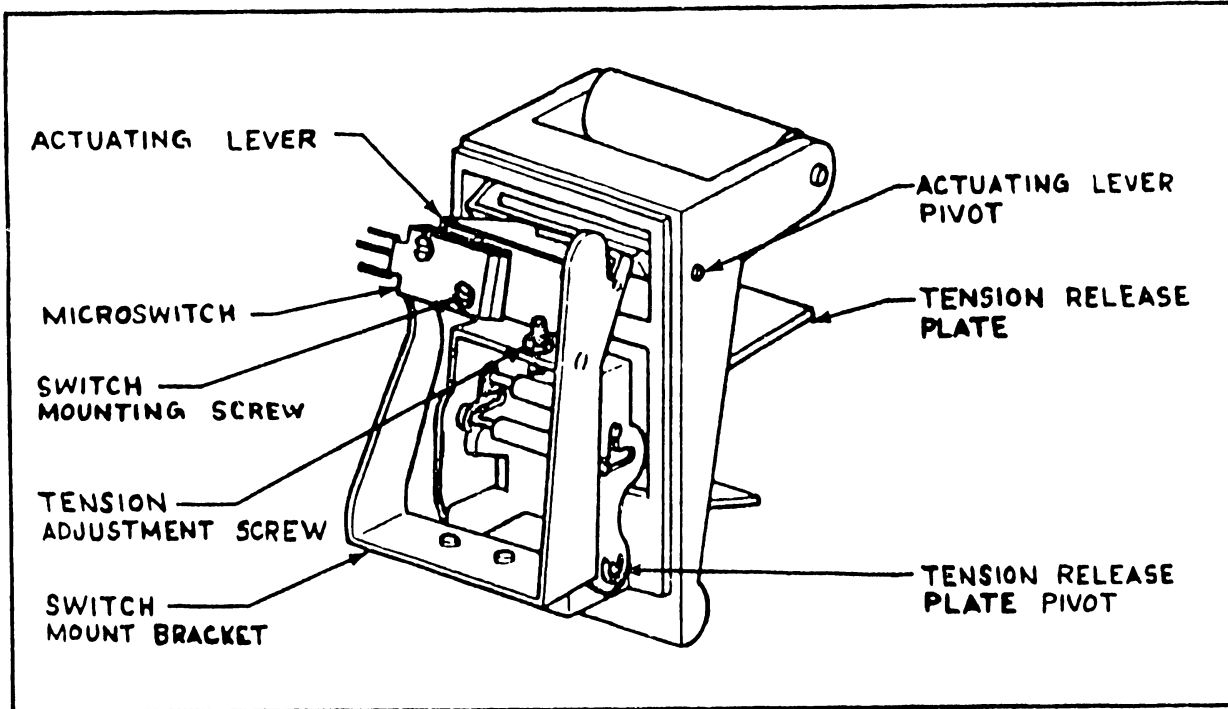

Figure 4.4 Tape Tension Switch Adjustment
2. If the scale reads above or below the nominal 4 to 6 ounces, make adjustments by changing the setting of the tension adjustment screw; see Figure 4.4. Turning the screw clockwise lowers the upper pressure roller and increases the force required to drop out the tension release plate. Turning the screw counterclockwise reduces the amount of force required to make the plate drop out.